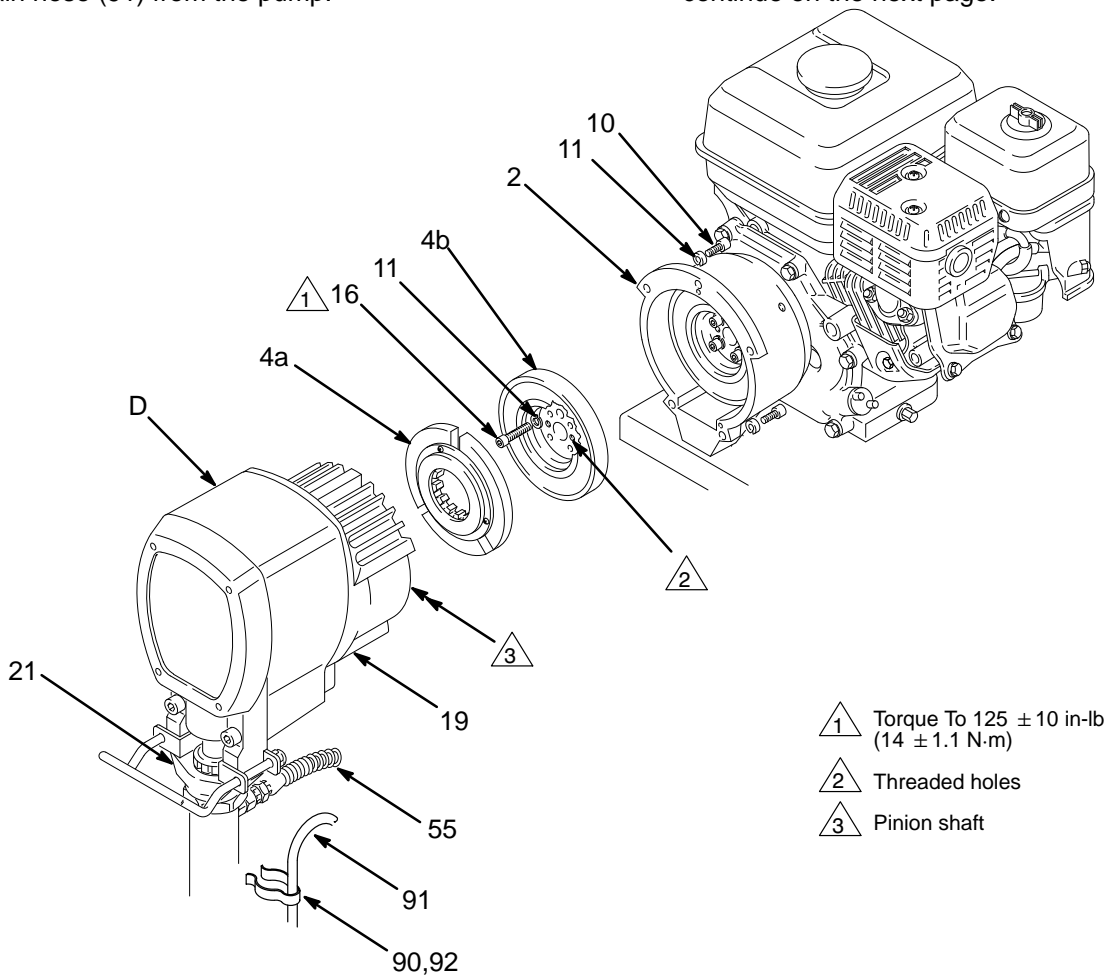

Fig. 16
**NOTE:** The clutch assembly (4) includes the armature (4a) and rotor (4b). The armature and rotor must be replaced together so they wear evenly.
**NOTE:** If the pinion assembly (19) is not yet separated from the clutch housing, follow Steps 1 to 4. Otherwise, start at Step 5.
2. Disconnect the hose (55) from the displacement pump. **For the upright carts only**, detach the drain hose (91) from the pump.
3. Remove the bottom two screws (10) from the clutch housing (2) and then the top three screws.
4. Tap lightly on the back of the bearing housing (21) with a plastic mallet to loosen the assembly (D) from the clutch housing (2). Pull the assembly away; the armature (4a) will come with it. Remove the armature from the pinion shaft.
5. Remove the four capscrews (16). Install two of the screws in the threaded holes in the rotor (4b). Alternately tighten the screws until the rotor comes off. See Fig. 16.